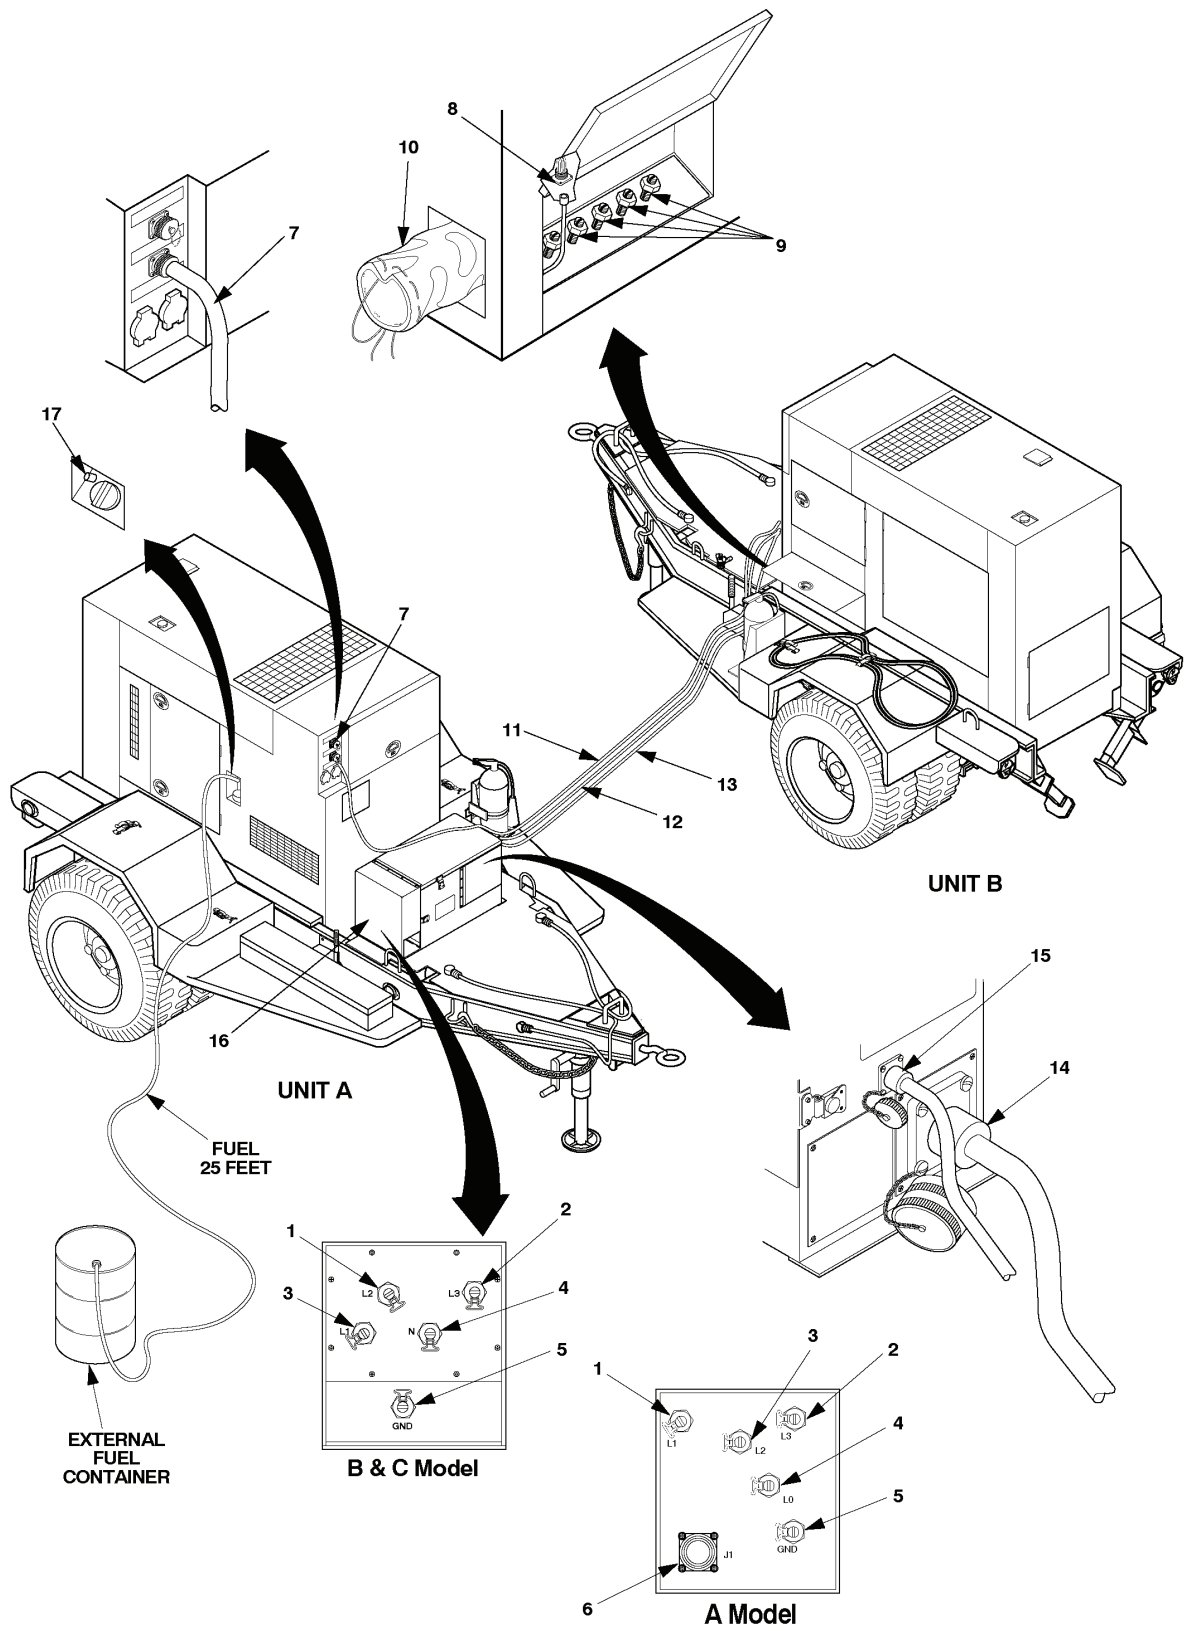

Figure 2-6. Connecting Power Plant.
- (1) If a trailer having the load terminal is being used, perform steps (5) through (7). Otherwise perform steps (2) through (4) and step (7).
- (2) Remove and retain wing nut (4, figure 2-6) and washers (3) from trailer ground stud (1) and install ground terminal (2) to ground stud (1).
- (3) Install washers (3) on ground stud (1).
- (4) Install wing nut (4) on ground stud (1) and tighten.
- (5) Loosen nut (7) on trailer ground terminal (9).
2-3.4.2 Power Plant. Refer to figure 2-6 for installation of power cables and load cables. Load may be connected to the switch box (figure 2-6) by either of two methods. One method is to connect the load cable to the J1 connector (6, figure 2-6). The other method is to connect load cables to the load terminals (1, 2, 3, 4, and 5, figure 2-6). Connect Unit A to Unit B as follows:
- d. Thread fuel pipe (3) into adapter (2). Thread extension pipe (4) into fuel pipe (3).
- h. Connect free end of auxiliary fuel hose to generator set external fuel supply connection and tighten. Connection is located on generator set, near fuel tank filler cap (17, figure 2-6).